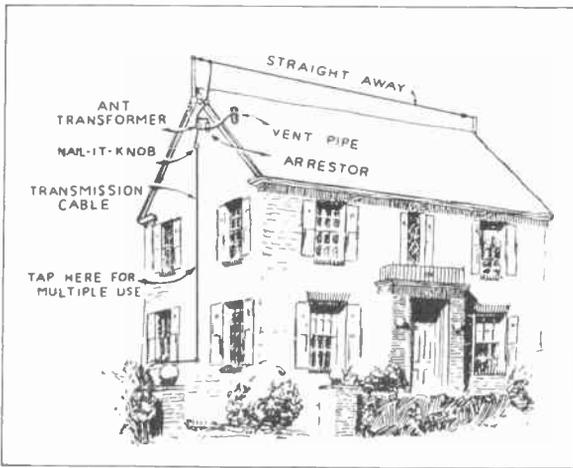

FIG. 4
*Single Receiver Connection.* Figure 4 shows how a single receiver installation would be made. The straight-away should be as high as possible and the lead-in support should be near a ground. This antenna system depends to a large extent for its efficiency upon the ground, conveniently obtained through a connection to an outdoor vent or indoor overflow pipe. The connection to the overflow pipe in the attic will provide a ground of fairly low resistance. A connection to a tin roof that is fairly well grounded will also be suitable. Under no circumstances should a ground wire be run from the roof down to the actual ground level, since this connection will afford no better performance, as far as noise elimination is concerned, than if the antenna transformer were mounted at the ground level.
Note in Fig. 4 that the antenna coupler is not placed directly at the aerial. For best reception of locals a small vertical down lead such as shown in the illustration is a big help. This need only be a few feet in length.